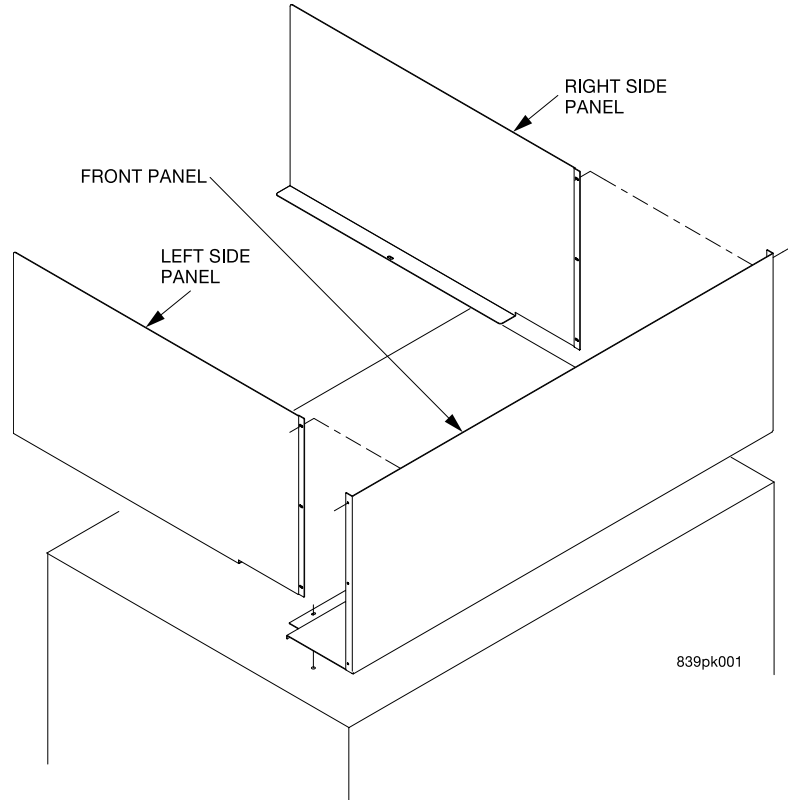

Figure 2
- Carefully lift the header assembly to the top of the condiment stand (see figure 2).